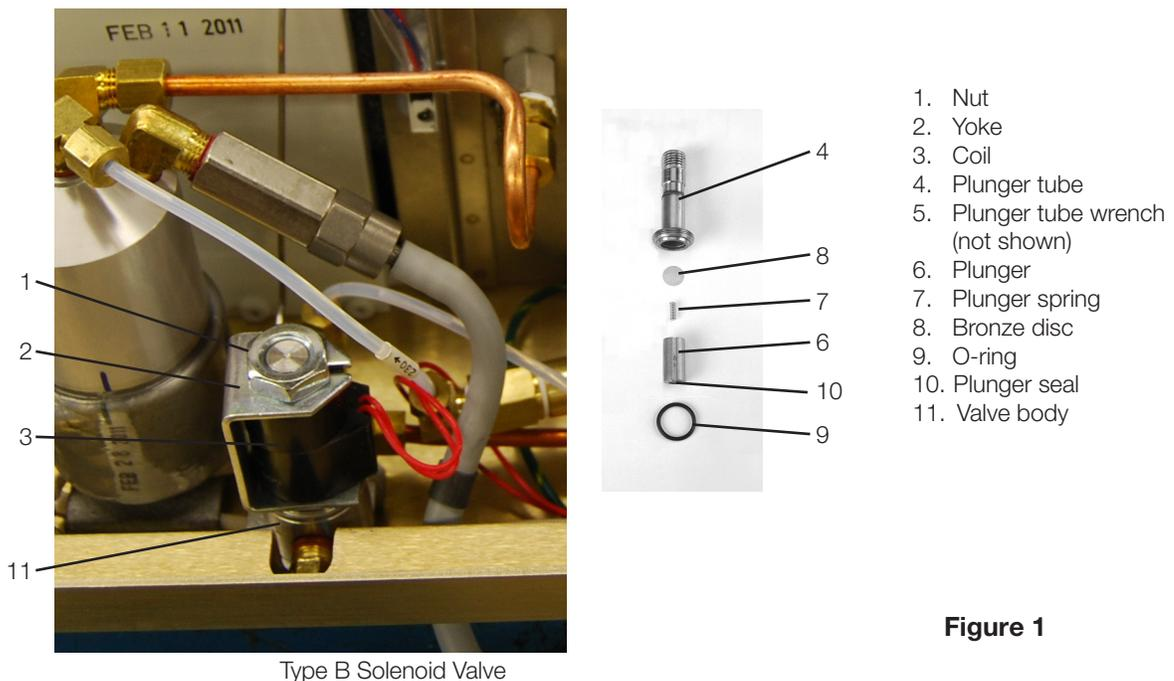

Figure 1
- Type B is a two part cylindrical bodied unit (see Figure 1).
The solenoid valve assembly may be inspected and/or repaired while in the unit. To inspect and/or repair the assembly, proceed as follows (see Figures 1 and 2):